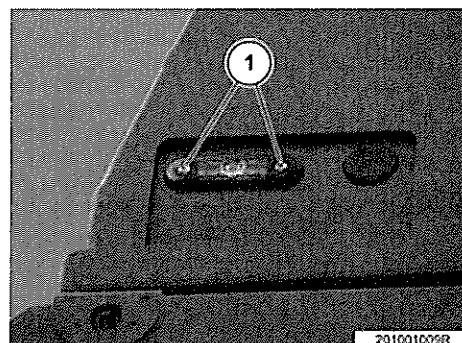

Fig 19 Replacing a clearance LED on the cab
58.5 Refer to Fig 19. Loosen the mounting screws (1) and remove the cover frame for the clearance LED.